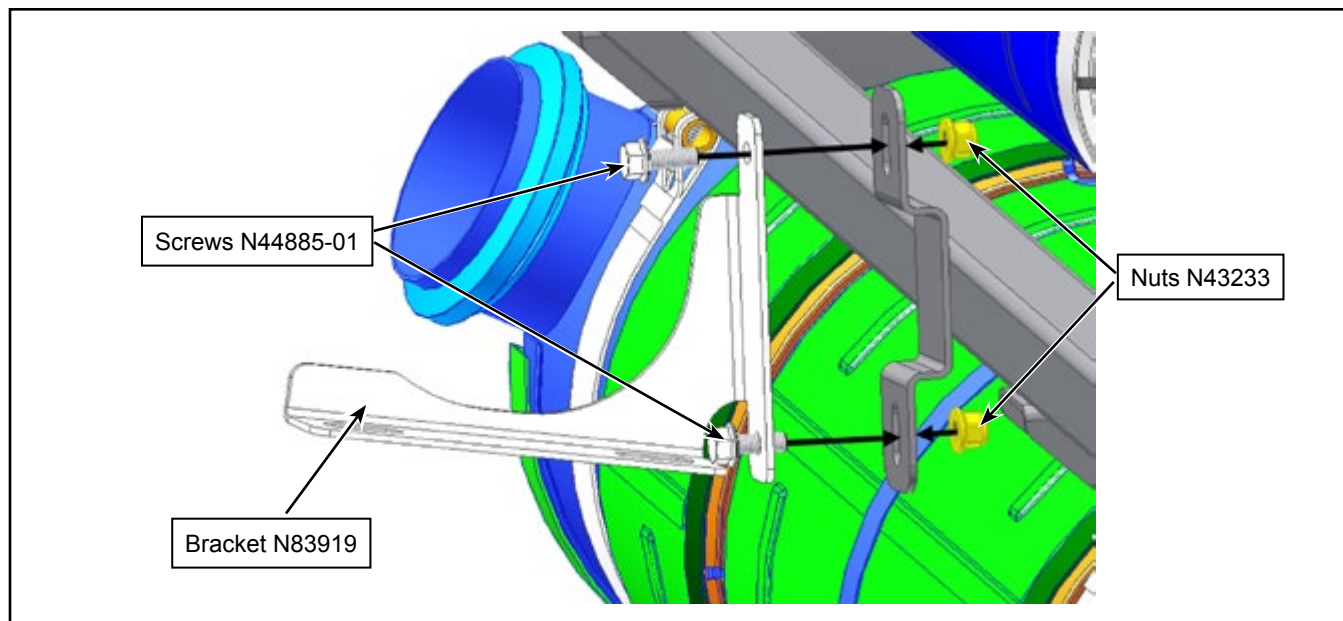

Figure 2 - Bracket N83819 Affixed to the Structure
- 1.8. Affix bracket N83919 to the structure with N43233 nuts and N44885-01 screws. See Figure 2.